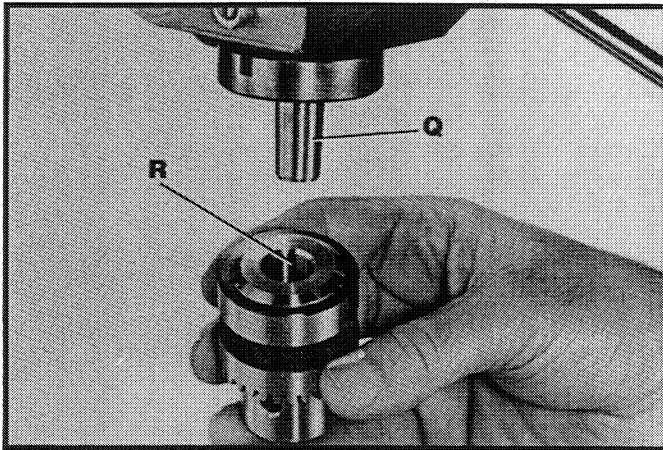

Fig. 15
11. **IMPORTANT:** Make certain the spindle taper (Q) Fig. 15, and tapered hole in chuck (R) are clean and free of any grease, lacquer or rust preventive coatings. **NOTE:** Household oven cleaner can effectively remove any substance from the spindle and chuck; however, carefully follow the manufacturer's safety rules concerning its use.